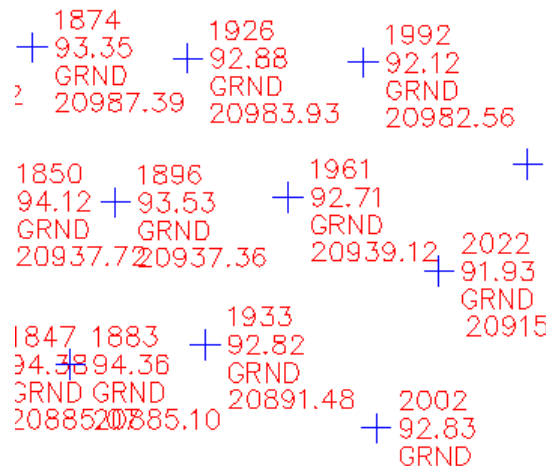

Figure 2-64 Ground points displaying the point number, elevation, description, and northing of each point
- Next, choose the **OK** button; the **Point Group Properties - Ground Points** dialog box is closed. The ground points are displayed with a new point style and label style. Note that the point label displays the point number, elevation, description, and northing of each point, as shown in Figure 2-64.